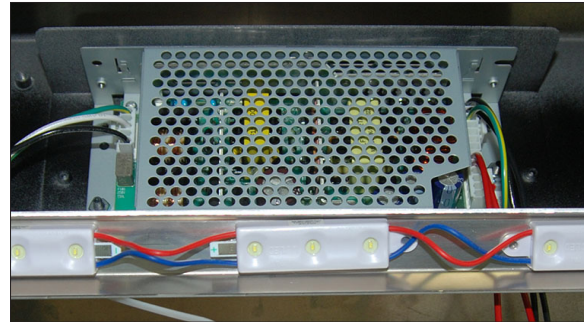

Figure 23: Power Supply Inside Display
4. Attach the new power supply to the mounting bracket inside the display and reconnect all wires. Refer to **Figure 23**.